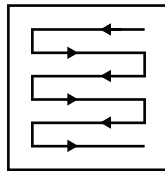

Fig. 17
5. Mow in slight overlapping rows. The most effective pattern for mowing lawns is straight lines along one of the sides. This will keep the rows even and ensures that all the lawn is cut without missing any spots (Fig. 17).
8. Empty the grass catcher (8) regularly.